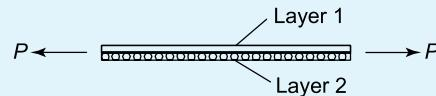

Figure 2.15 Carbon fibre layers
1. Two layers of carbon fibre are stuck to each other, so that their fibres lie at 90° to each other, as shown in Figure 2.15. If a tensile force of 1 kN were applied to this two-layer compound bar, determine the stresses in each. For layer 1, $E_1 = 300 \text{ GPa}$ and $A_1 = 10 \text{ mm}^2$